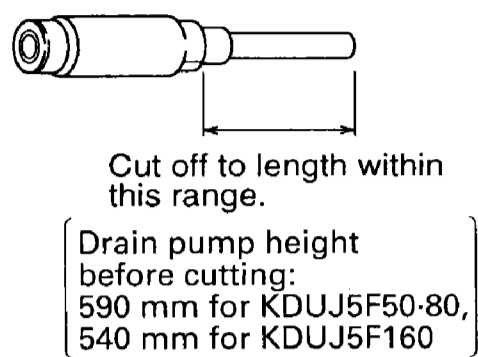

Fig. 4
- (1) Adjust the length of the attached drain pipe according to the head required in the ceiling. (Fig. 4) (For the adjustable drain pump height range, see the table below.)